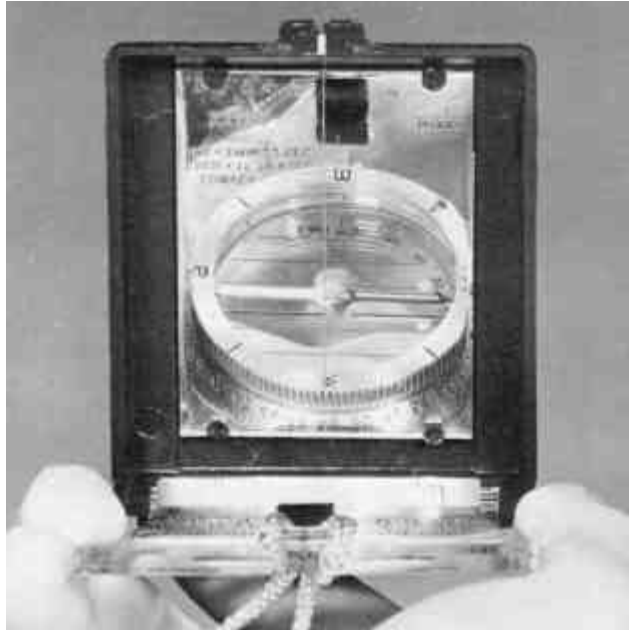

Figure 8-11 The Orienting Arrow and Needle are Lined Up
- c. While sighting on your objective across the sight and continuing to ensure that the sighting line intersects the luminous points, turn the dial so the orienting arrow is lined up with the needle. its red end between the orienting points. See Figure 8-11.